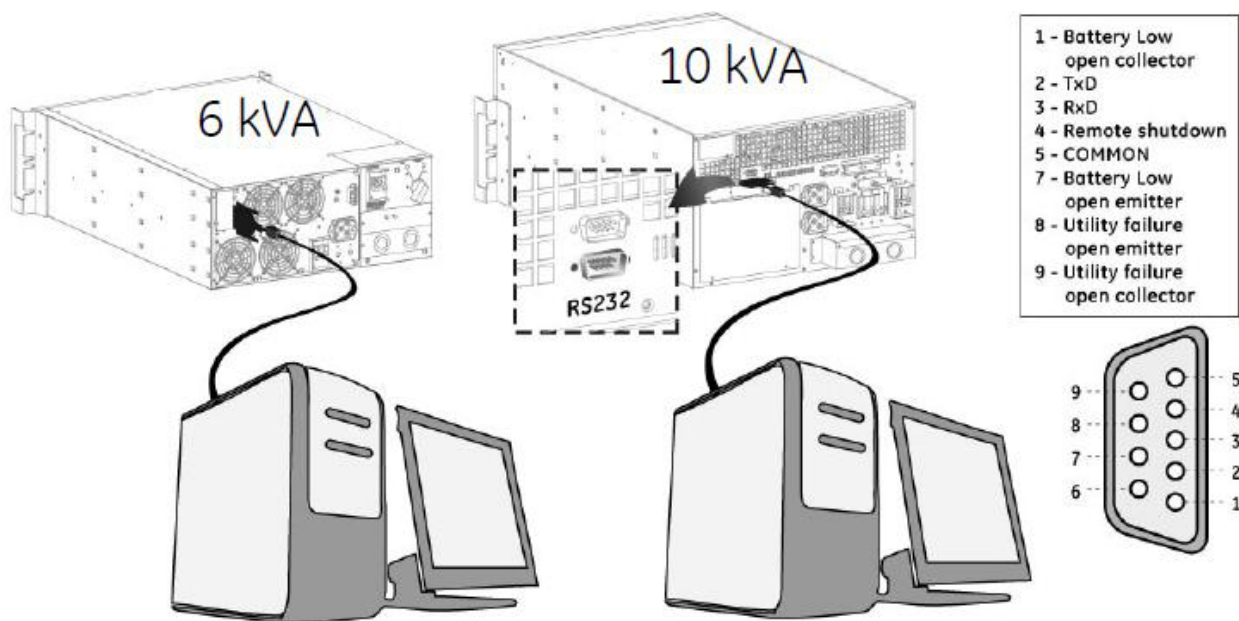

FIG 68 – RS232/DB9 COMMUNICATIONS
The RS232 port is a plug-in interface port, which enables advanced communication between the UPS and a computer via a serial cable (FIG 68) and UPS Monitoring Software. The interface port is already operational in standby mode.
5. Slide the PDU into the new power module and fix the 3 mounting screws (FIG 68).